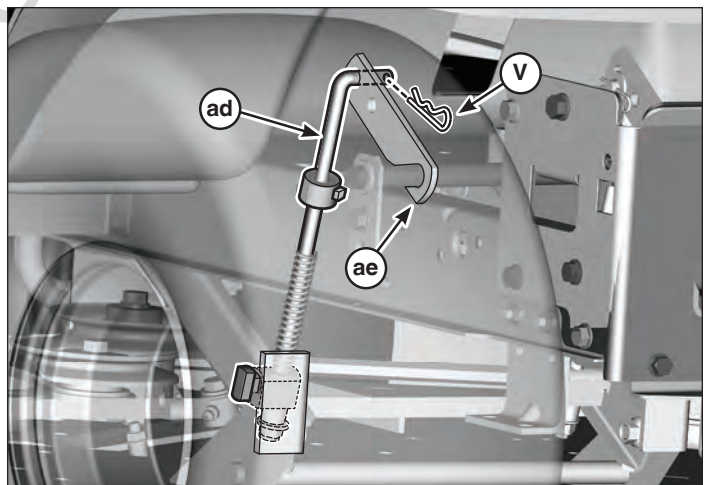

Figure 30
12. Reinstall lift rod (**ad**) onto lift arm (**ae**, Figure 30) and secure with hair pin (**V**).